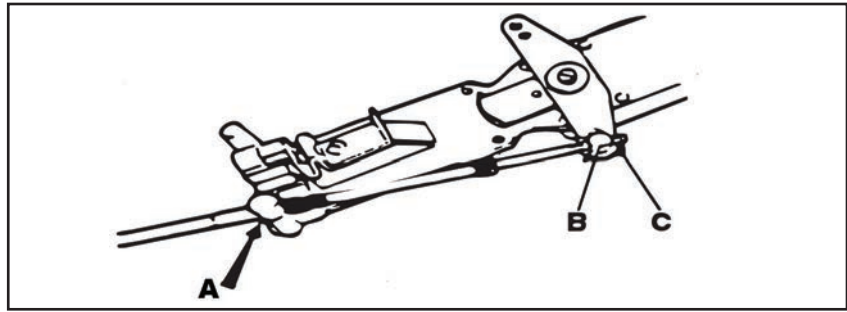

Figure 3.
a) Push the shift cable through the appropriate retainer, making sure the cable seats securely into the retainer (Figure 3, item A).
c) Connect the pivot to the shifting lever (Figure 3, item C).